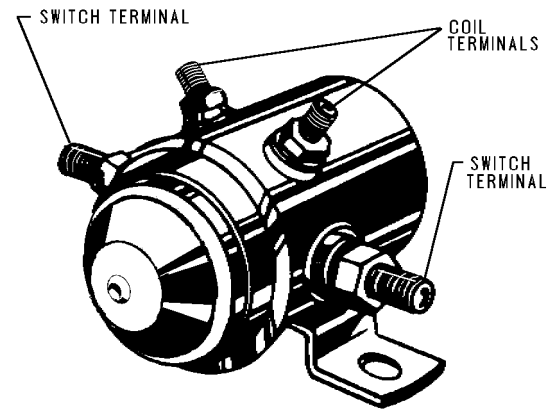

FIGURE 2-12. MAGNETIC SWITCH ASSEMBLY
2. Disconnect the cables from the switch terminals and the wires from coil terminals (Figure 2-12).